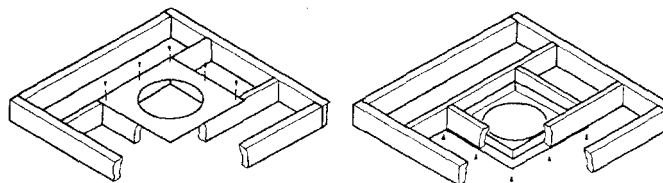

Figure 20 - Installing Firestop
1. Cut a 103/4" square hole in the ceiling using the locating hole as a center point. The opening should be framed to 103/4" x 103/4" (273mm x 273mm) inside dimensions, as shown in Figure 9 on page 8 using framing lumber the same size as the ceiling joists. If the area above the ceiling is an insulated ceiling or a room, nail firestop from the top side. This prevents loose insulation from falling into the required clearance space. Otherwise, install firestop below the framed hole. The firestop should be installed with no less than three **nails** per side (see Figure 20).